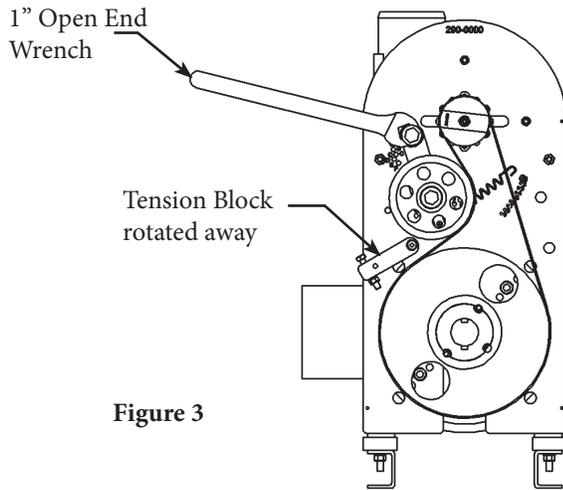

Figure 3
Using a 1 inch (25.4 mm) open-end wrench, as shown in **Figures 3 and 4**, rotate the Tension Arm Assembly clockwise (CW) and remove the Belt. You may release the pressure on the wrench and allow the Tension Arm to swing back into position once the Belt has been removed.